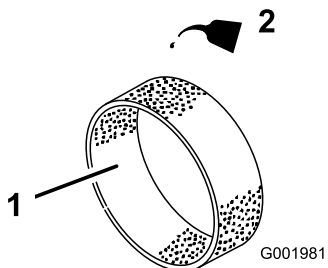

Figure 40
- Put 30 to 59 ml (1 to 2 fl oz) of oil on the element (Figure 40).